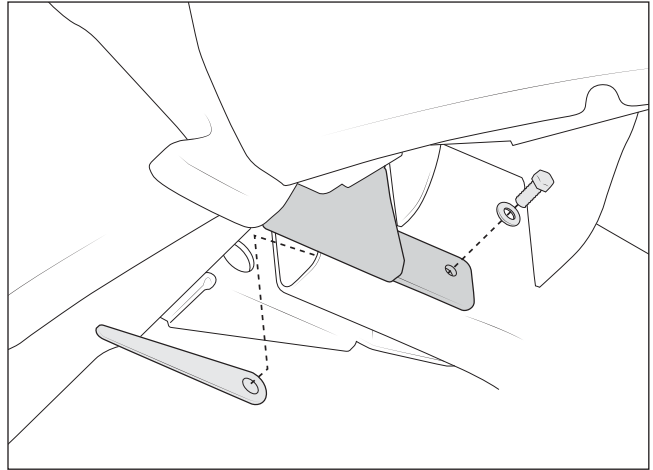

Figure 24
4. Use the supplied 3/8" bolt, washer, and flag nut in this location (fig. 24). Torque to 37 lb-ft.